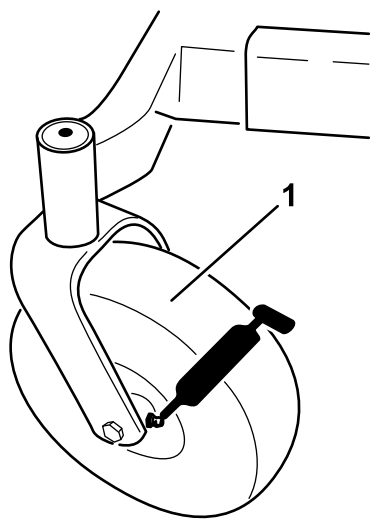

Figure 33
3. Clean the grease fittings (Figure 33 and Figure 32) with a rag.
4. Connect a grease gun to each fitting and pump grease into the fittings until grease begins to ooze out of the bearings (Figure 32 and Figure 33).